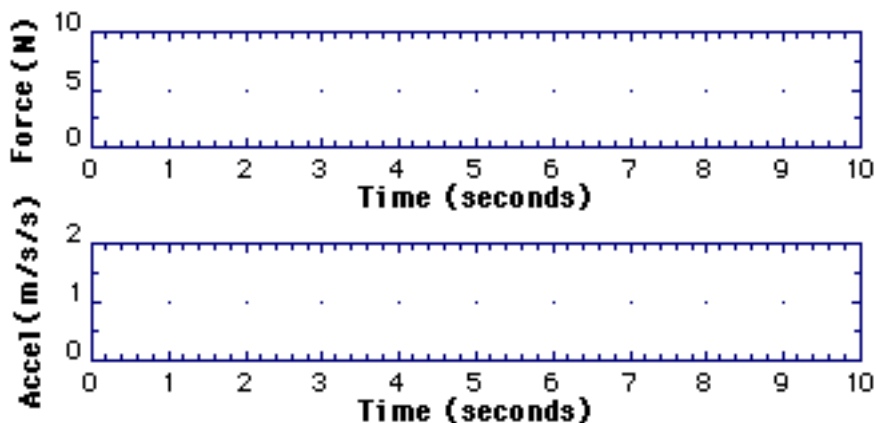

Figure 9. Force/Accel 2 graph format for Activity 3
- **Open...** the file **FORCE/ACCEL 2** in the **Lab 2** folder. The graphs shown in Figure 9 should appear on the screen.